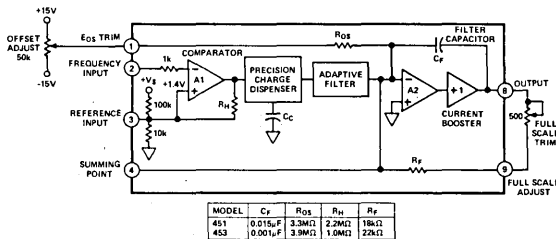

Figure 1. Block Diagram — Models 451 & 453 F/V Converters
Models 451 and 453 accept virtually any signal waveshape providing accurate conversion into an output voltage proportional to the input signal frequency. The only restriction is that the input signal must remain above the threshold level for 20 $\mu$ s when using model 451, and 2 $\mu$ s when using model 453. Linear, stable conversion over four decades of input range for model 451 and five decades of input range for model 453, is achieved using a precision charge-dispensing design approach. Figure 1 represents a functional block diagram for both models 451 and 453 frequency to voltage converters.
**Adjusting Input Threshold:** The input comparator of models 451 and 453 shown in Figure 1, conditions the input signals providing protection against noisy environments as well as preventing double triggering with slow rise-time signals. Input levels up to the supply voltages,  $\pm V_S$ , will not cause damage to the input comparator.
$R_H$  (see Figure 1) and the parallel combination of all resistors attached at the comparator positive input. For example, with a 17.6k $\Omega$  resistor connected to the REF terminal, hysteresis becomes  $\pm 35\text{mV}$  for model 451 and  $\pm 75\text{mV}$  for model 453. The F/V converter will, therefore, trigger at  $+6\text{V} \pm 35\text{mV}$  for model 451 and  $+6\text{V} \pm 75\text{mV}$  for model 453.